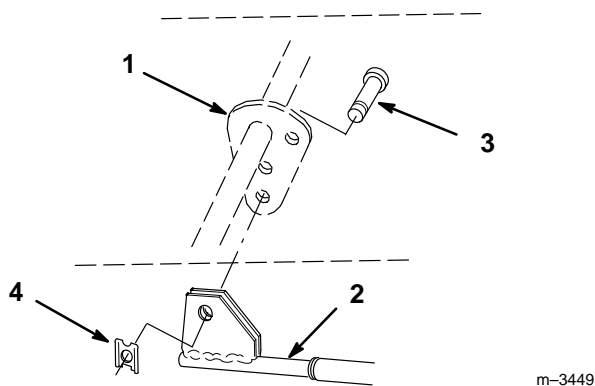

Figure 16
7. From beneath the tractor, connect the snowthrower lift rod to the bottom hole in the attachment lift plate with the 1" (25 mm) clevis pin and clip (Fig. 16).